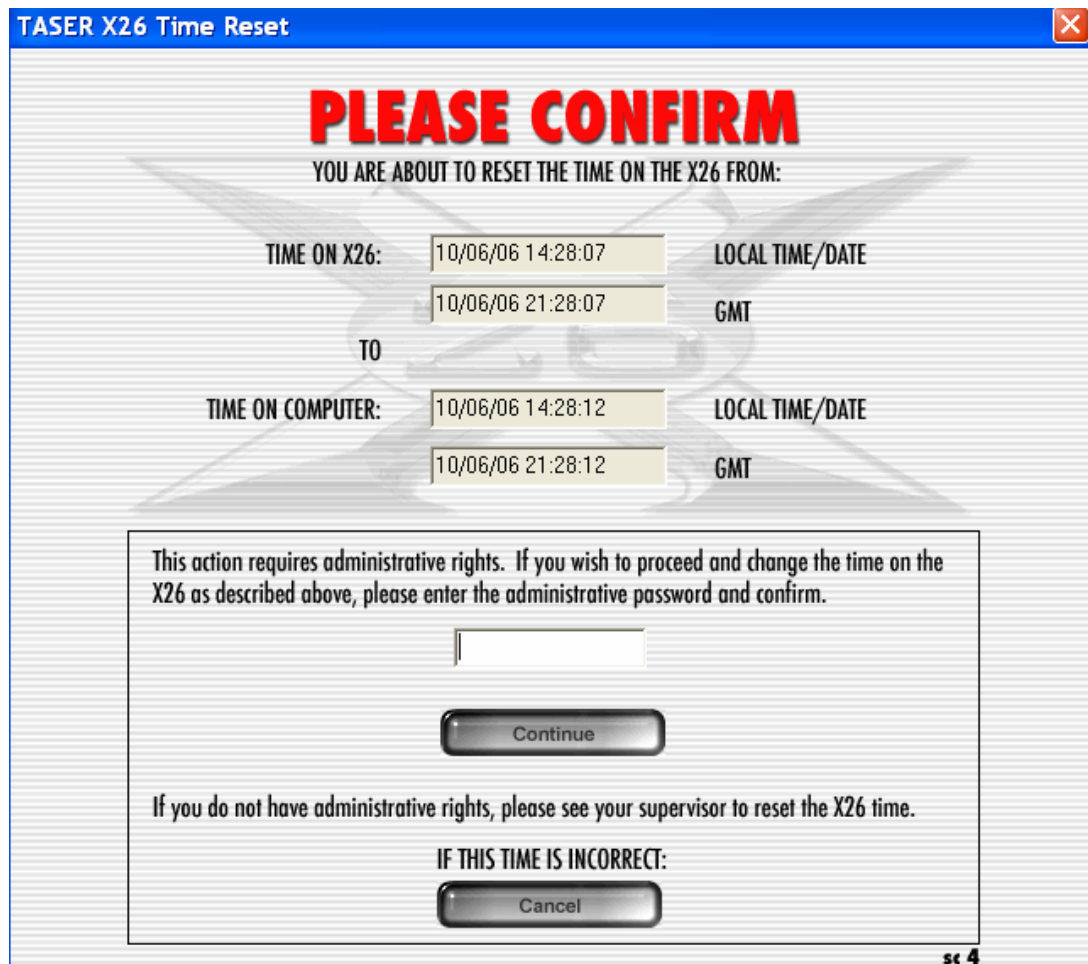

Figure 22
19. The **Sync Time** option (Figure 15) synchronizes the X26 time to the computer time regardless of the time difference. This feature allows synchronizing the times when the difference is less than 10 minutes. The **Alert Time Synchronization** screen will appear and the instructions are the same as previously described (Figure 22).
case. You also can obtain the password by contacting TASER International Technical Support at 1.800.978.2737 (Figure 22).